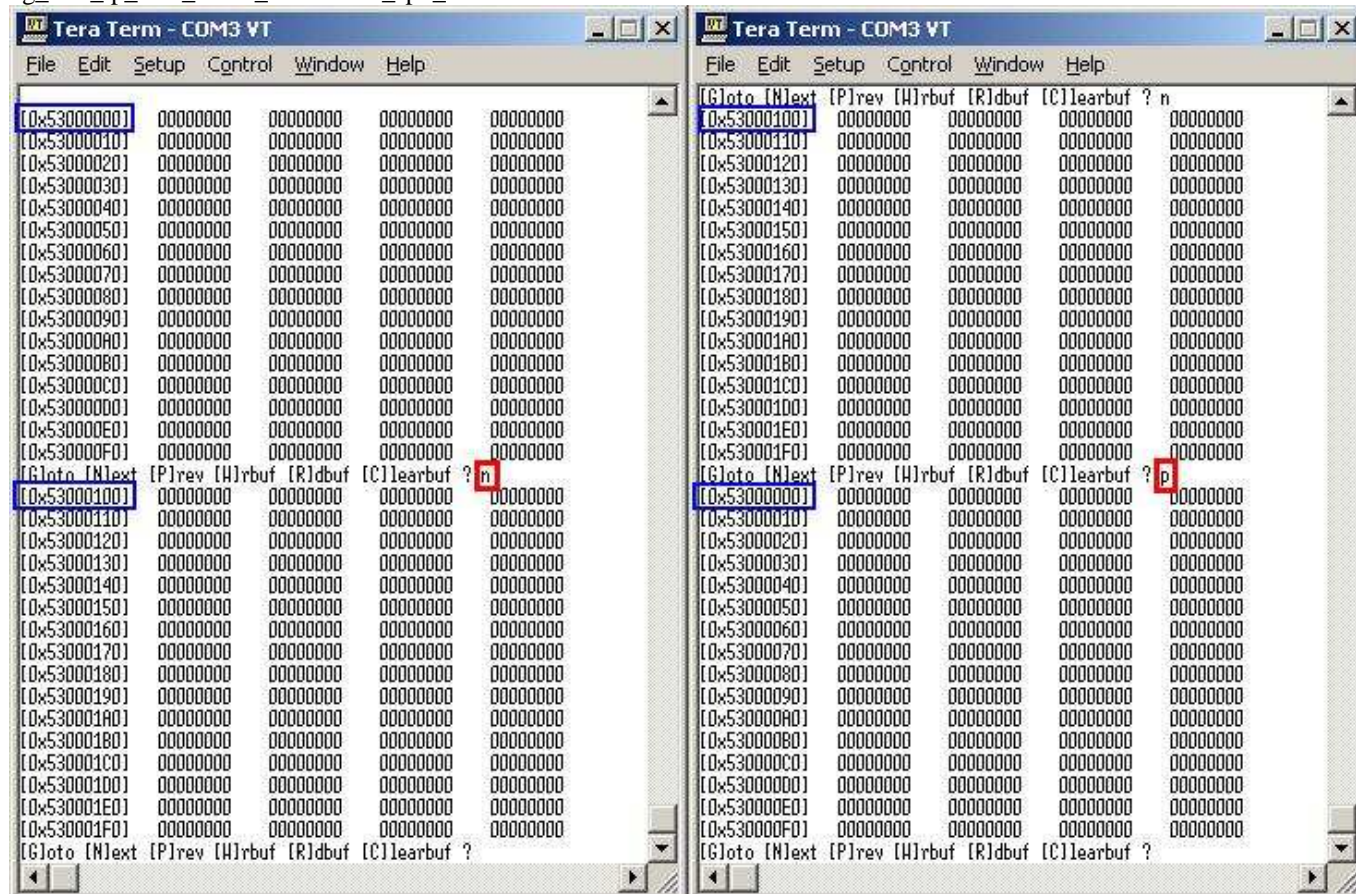

Figure 15 Read Next/Previous 256 byte data in buffer
- 'N': this submenu is used to read next 256 byte data in buffer, as shown in Figure 15.
- 'P': this submenu is used to read previous 256 byte data in buffer, as shown in Figure 15.